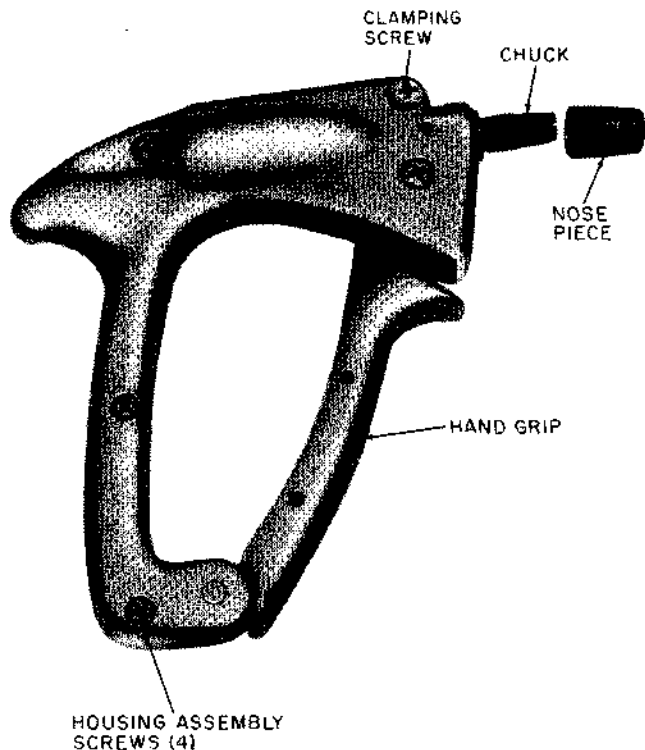

Fig. 2—KS-16363, L2 (Mfr Disc.), and L3 Wire-Wrapping Tools
1.01 This section covers the KS-16363, L1 (Mfr Disc.), the KS-16363, L2 (Mfr Disc.), and the KS-16363, L3 wire-wrapping tools. The associated wrapping bits and stationary sleeves are also covered. The KS-16363, L1 (Mfr Disc.) wrapping tool with bit and sleeve is shown in Fig. 1. KS-16363, L2 (Mfr Disc.) and L3 are shown in Fig. 2.
- (1) To rate the KS-16363, L1 wire-wrapping tool Mfr Disc.
- (2) To add the KS-16363, L2 wire-wrapping tool and rate it Mfr Disc.
- (3) To add the KS-16363, L3 wire wrapping tool
- (4) To add a new Fig. 2
- (5) To clarify a note in paragraph 2.06.
1.05 The KS-16363, L2 (Mfr Disc.), and KS-16363, L3 (Fig. 2) wire-wrapping tools have a universal hand tightened chuck which simplifies the attachment of the KS-20963 sleeve. This brings the KS-16363, L2 (Mfr Disc.) and L3 wire-wrapping tools into conformity with all other Bell System wire-wrapping tools. The KS-21232, L1 electric-powered wire-wrapping tool for 20 through 30-gauge wire also has the same type chuck; therefore, all current and future sleeves will fit interchangeably in either hand tools or powered tools. The old wire-wrapping sleeves, KS-16363, L32 and L33 (Mfr Disc.), will not fit into the new chuck on the KS-16363, L2 (Mfr Disc), or L3 wire-wrapping tools.